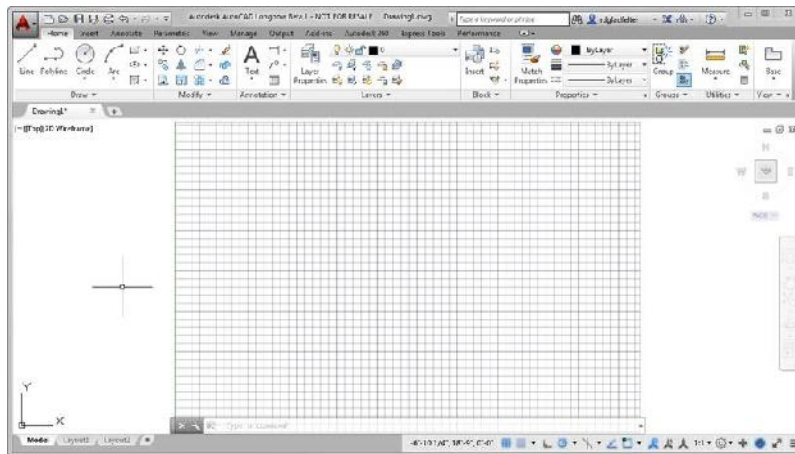

FIGURE 3.9 : The drawing with the grid extending to the 60' × 40' (18,000 mm × 12,000 mm) limits
4. To bring the entire area defined by the drawing limits onto the screen, use the ZOOM command again, but this time use the All option to bring the drawing limits into view (see Figure 3.9).